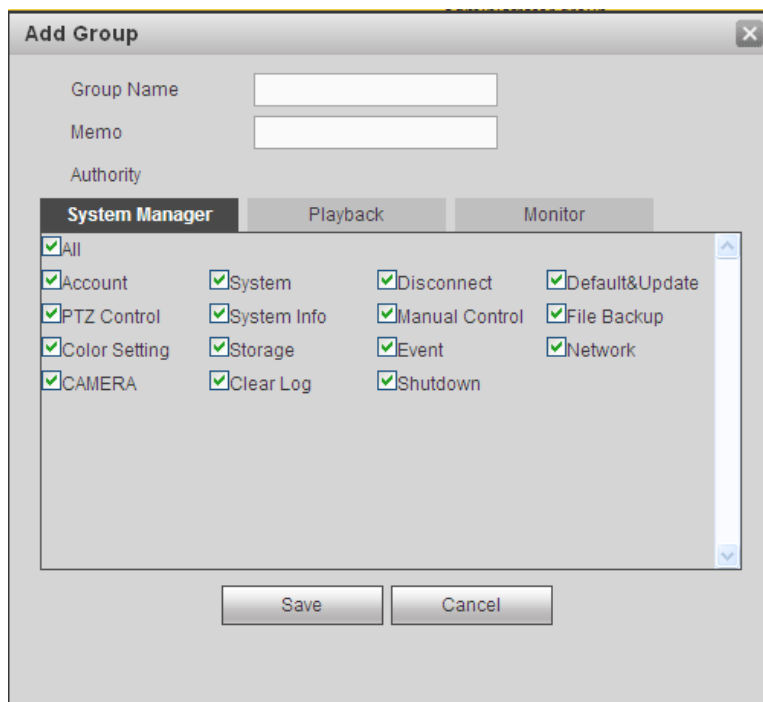

Figure 5-115
**Add group:** It is to add group and set its corresponding rights. See Figure 5-115. Please input the group name and then check the box to select the corresponding rights. It